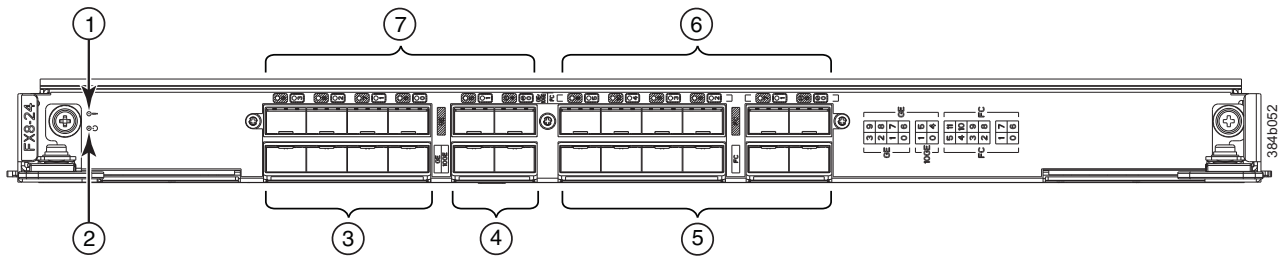

Figure 24. FX8-24 extension blade
- Figure 24 on page 49 illustrates the FX8-24 extension blade